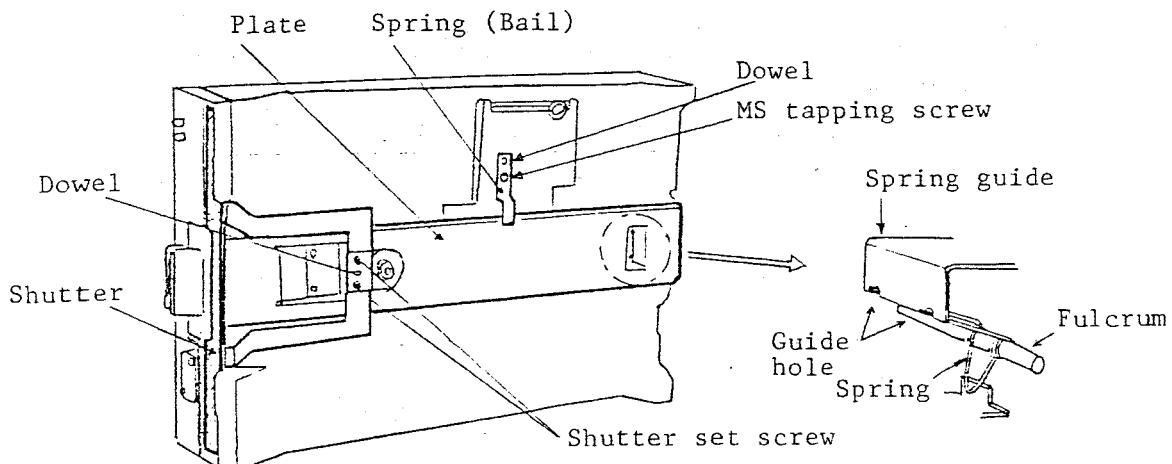

Fig. 4.2 How to Open/Close Plate
(1) Tools and measuring instruments to be used:
(2) Disassembling
- Remove shutter get screws (M3 × 2), and dismount the shutter by pushing it to the left (Fig. 4.2).
(3) Assembling